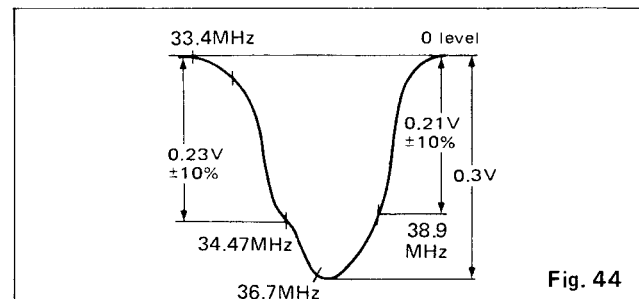

Fig. 44
1. Align the 34.47MHz marker with 0.23V, the 38.9MHz marker with 0.21V by alternately rotating cores T101 and T102 (see Fig. 44).
2. Realign the sweep generator output to produce a P.IF waveform; then confirm that the value of each marker is equal to that shown in Fig. 44.
1. After connecting the cables as shown above and confirming that the correct waveform exists, connect the oscilloscope input terminal to the tuner AFC terminal (see Fig. 44.)